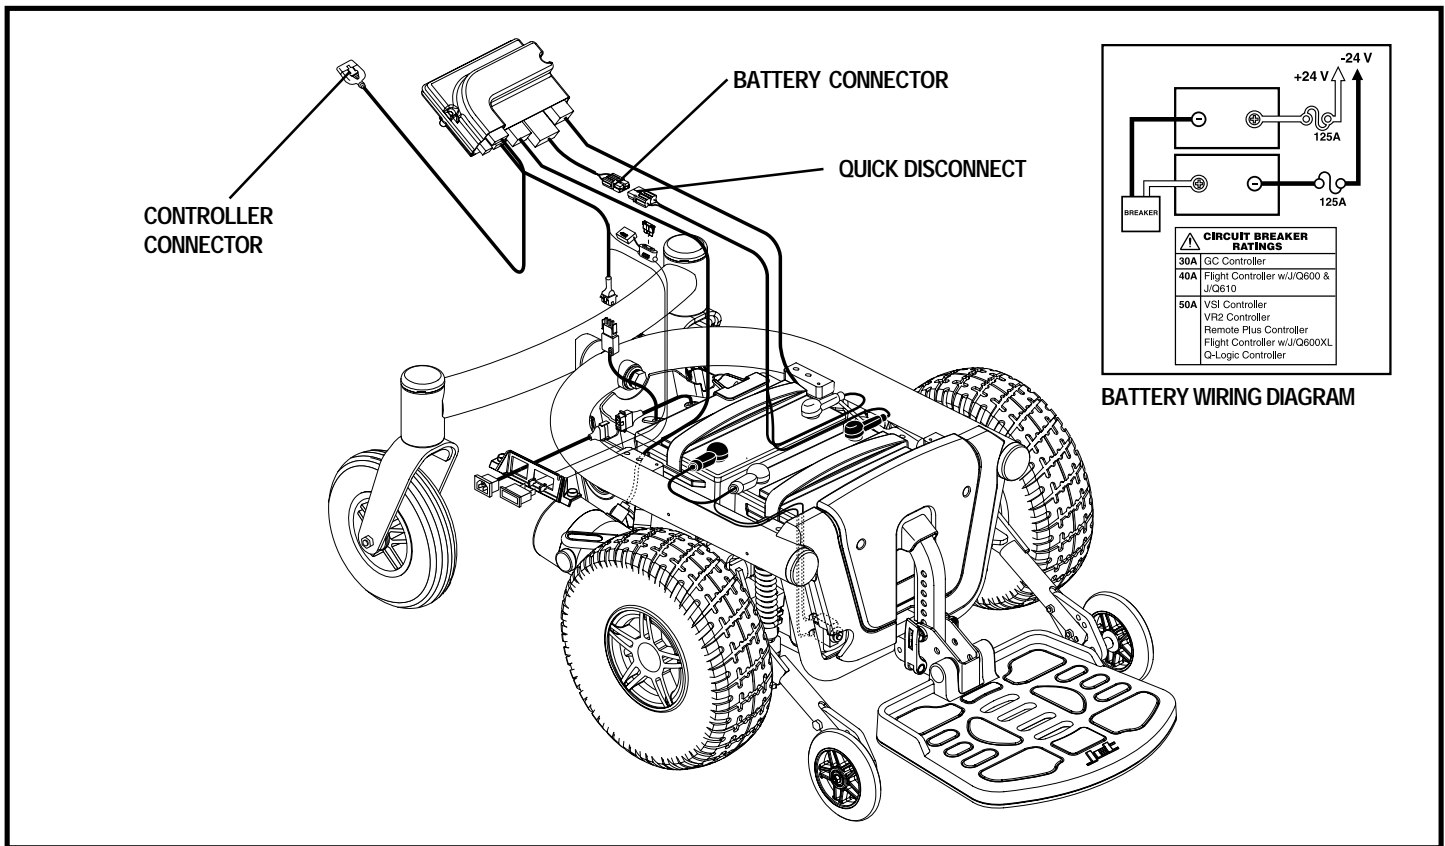

Figure 26. Jet 3 Ultra Battery Connections
5. Unplug the battery connector. See figure 26.
16. Connect the wiring harnesses to the rear battery. See figure 26.
19. Connect the wiring harnesses to the front battery. See figure 26.